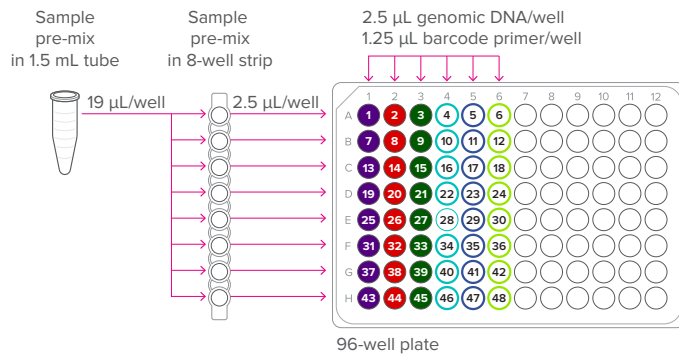

Figure 4. Preparation of sample mixes
- 4 Pipet 19 µL of the sample pre-mix into each well of a new 8-well strip (see Figure 4).
- 2 In a DNA sample hood, prepare the sample mixes by pipetting the components shown in Table 5 into each well of a new 96-well plate. Pipet reagents and samples according to the diagram shown in Figure 4. Use an 8-channel pipette to transfer the sample pre-mix from the 8-well strip.